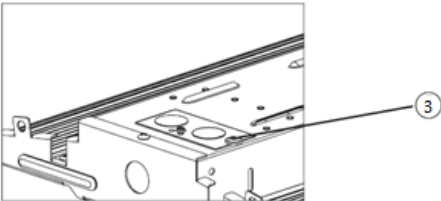

Figure 3
- 1) Remove access plate screw- **see Fig 3** and remove access plate from Fixture Housing (Input wires from Driver will be attached to the access plate).
1. Remove access plate screw- **see Fig 3** and remove access plate from Fixture Housing (Input wires from Driver will be attached to the access plate).